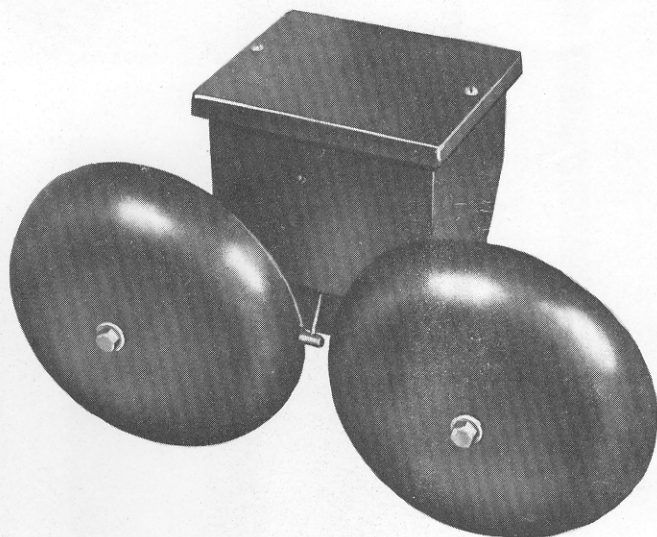

Figure 1. Loud Extension Bell, Front View.
2.01 The bell assembly consists of two 6-inch gongs, a ringer and ringer condenser. The ringer and ringer condenser are mounted inside a cast aluminum weatherproof housing along with a terminal strip. The bell is 8-3/4 inches high by 12-3/4 inches wide by 4-1/2 inches deep. The housing cover is rectangular, with a lip that extends over the periphery of the housing, and mounts with two screws. Figure 1 is an illustration of the loud extension bell.